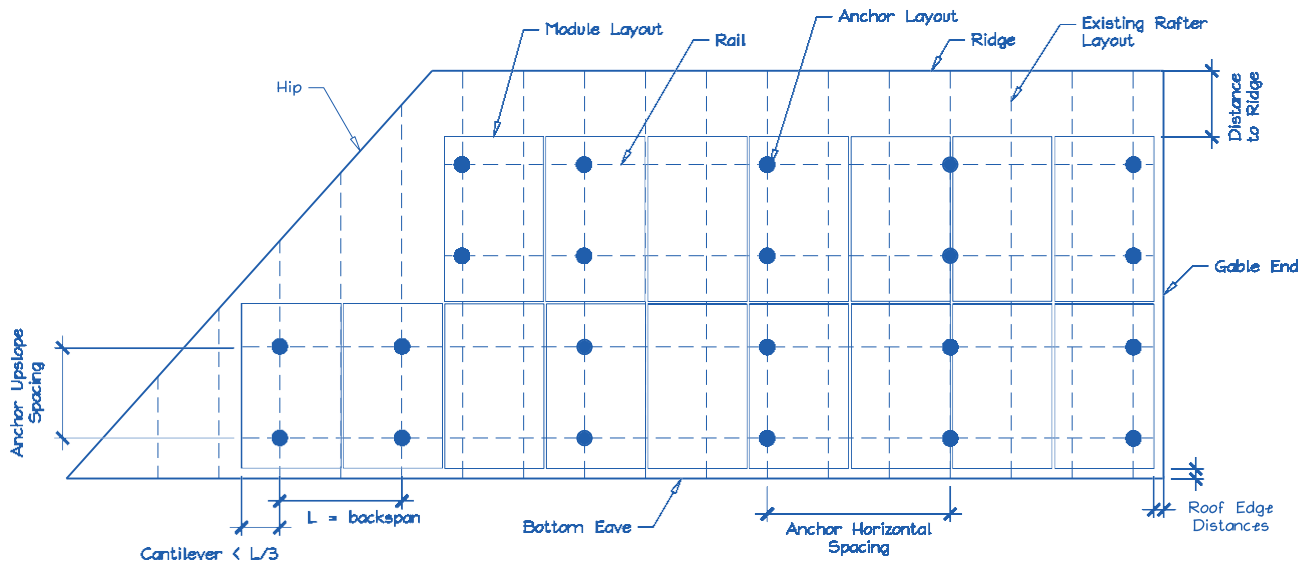

Figure 2. Sample Solar Panel Array and Anchor Layout Diagram (RoofPlan).
E. Is a roof plan of the module and anchor layout attached? (see Figure 2) Y N
- 1) Proposed anchor horizontal spacing (see Figure 2): _____' - _____"ft-in
1. Anchors are also known as "stand-offs", "feet", "mounts" or "points of attachment". Horizontal anchor spacing is also known as "cross-slope" or "east-west" anchor spacing (see Figure 2).